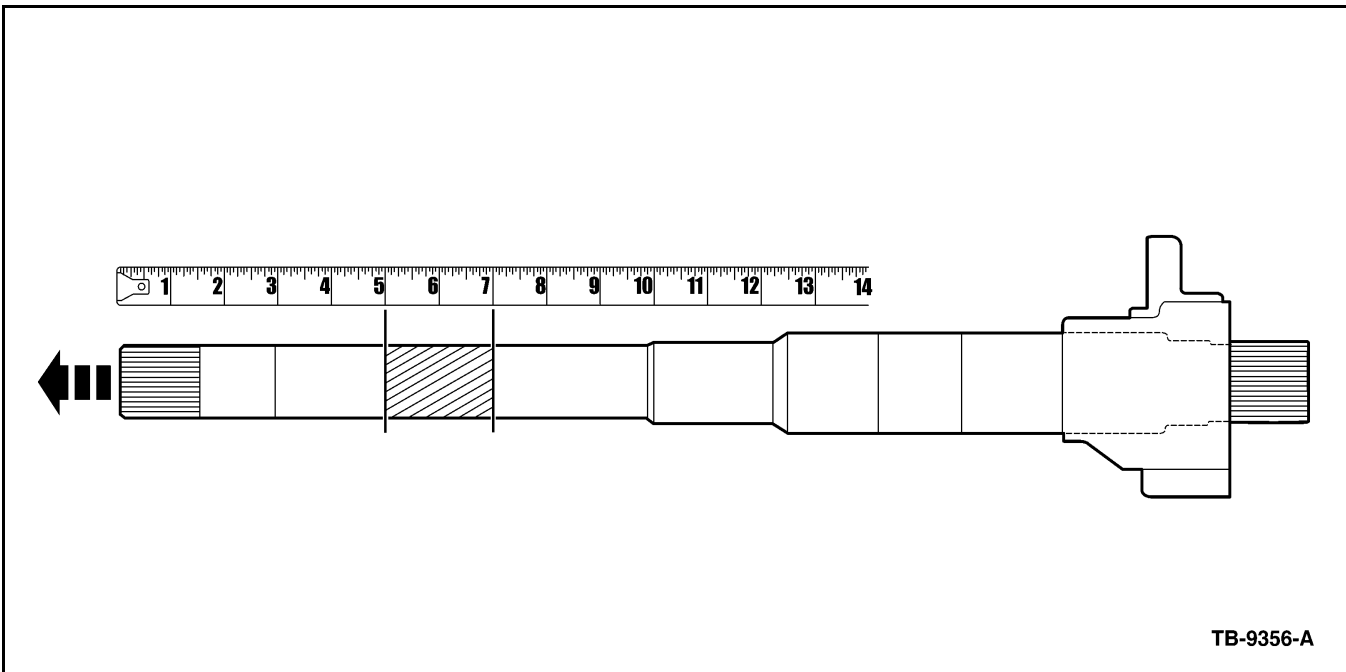

Figure 3 - Article 09-25-7
- Seal Protector Tool - which is a one time use, keeps the shaft splines from contacting intermediate shaft seal during installation to prevent the seal from being damaged. It is very important to remove the seal protector off the intermediate shaft during the installation at the proper distance to prevent seal damage. (Figure 3)